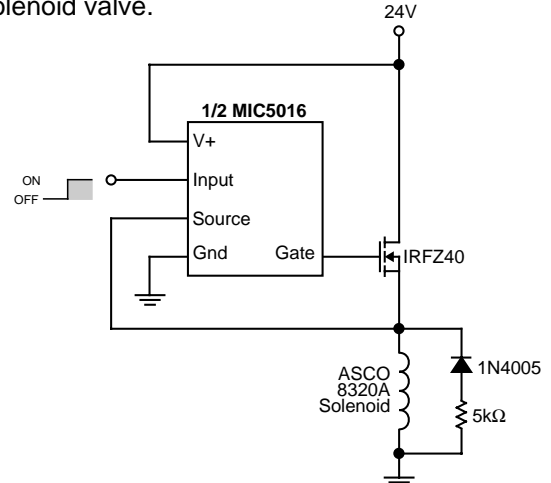

Figure 7: Solenoid Valve Driver
**Solenoid Valve Driver** (Figure 7) High power solenoid valves are used in many industrial applications requiring the timed dispensing of chemicals or gases. When the solenoid is activated, the valve opens (or closes), releasing (or stopping) fluid flow. A solenoid valve, like all inductive loads, has a considerable "kickback" voltage when turned off, as current cannot change instantaneously through an inductor. In most